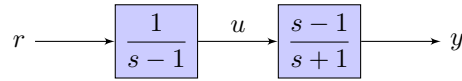

Figure 1: Open-loop control.
Problem 2. Consider the open-loop interconnection shown in Figure 1.
4. Implement the system shown in Figure 1 in Simulink. Let $r(t) = 1(t)$. Plot the control signal $u(t)$ and the output $y(t)$ for $0 \leq t \leq 10$.